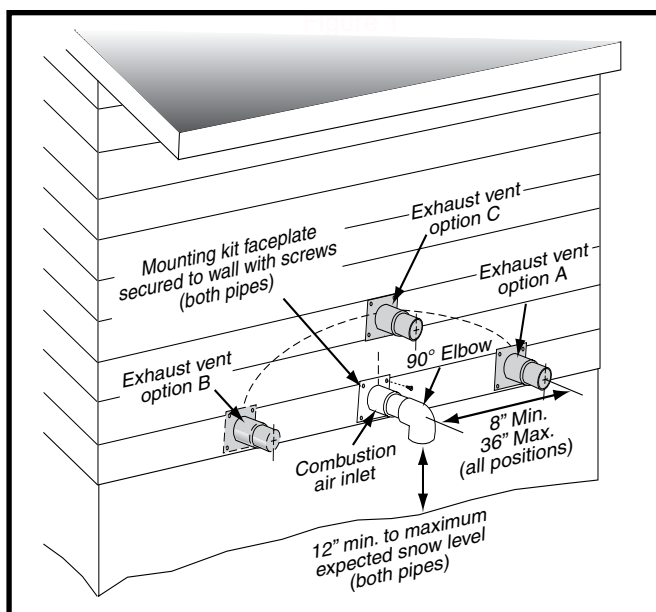
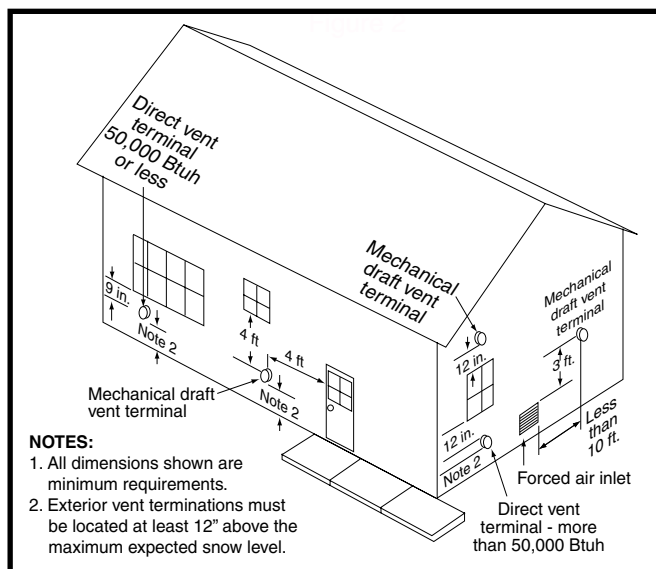
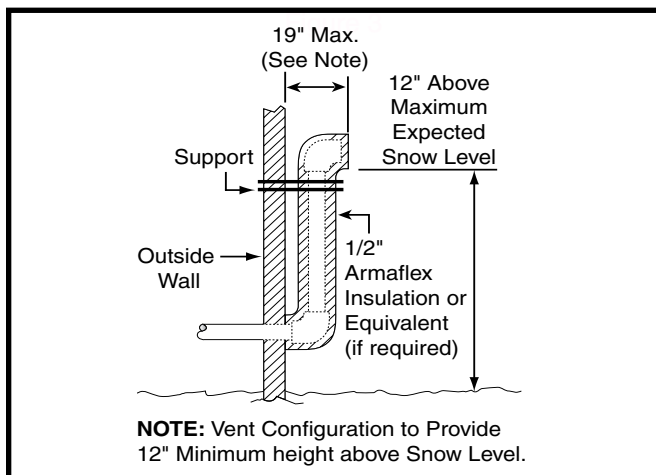
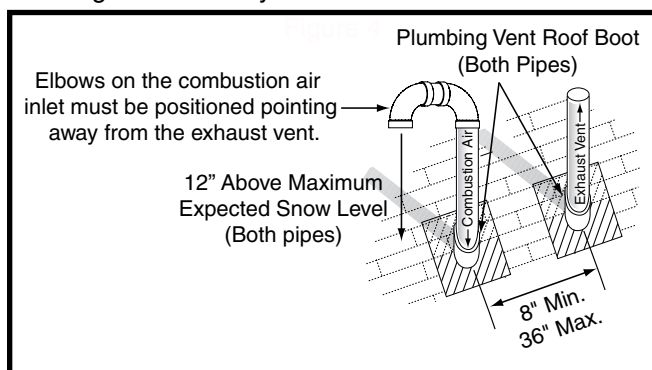

Figure 1. Inlet & Exhaust Pipe Clearances
Figure 2. Vent Locations
Figure 3. Alternate Horizontal Vent Installation
Figure 4. Vertical Vent Termination
- When a 2-pipe system is used, the combustion air intake and the vent exhaust must be located in the same atmospheric pressure zone. This means both pipes must exit the building through the same portion of exterior wall or roof as shown in Figure 1, Figure 2 & Figure 4 \(page 9\) and Figure 28 \(page 37\).
- Vent and combustion air intake terminations shall be installed as shown in Figure 1, Figure 2, Figure 3, & Figure 4 and in accordance with these instructions:
- All minimum clearances (Figure 2) must be maintained to protect building materials from degradation by flue gases.
- When the vent pipe must exit an exterior wall close to the grade or expected snow level where it is not possible to obtain clearances shown in Figure 1, a riser may be provided as shown in Figure 3. Insulation is required to prevent freezing of this section of pipe. See Table 3, (page 10) for vent freezing protection.
Termination spacing requirements from the roof and from each other are shown in Figure 4. The roof penetration must be properly flashed and waterproofed with a plumbing roof boot or equivalent flashing. Vent and combustion air piping may be installed in an existing chimney which is not in use provided that:
- The termination clearances shown in Figure 4 are maintained.